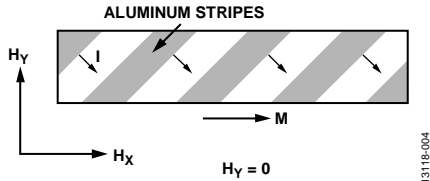

Figure 4. Barber Pole Effect in a Permalloy Strip
A common method used to improve both the linearity and polar insensitivity of the permalloy strip is to add aluminum stripes angled at 45° to the strip axis called barber poles, as shown in Figure 4. Any current flowing between barber poles takes the shortest path, the perpendicular path, and the angle between the current flow vector (I) and magnetization vector (M) shifts by 45°.